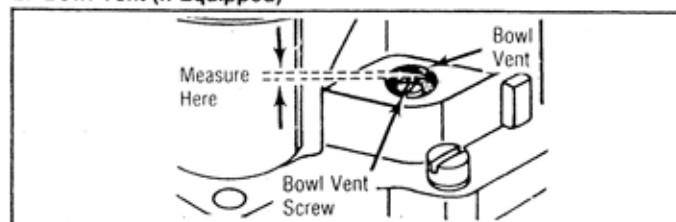

Fig. 5 Bowl Vent Adjustment (Early Type - If Equipped)
2. Hold throttle valves closed. Measure bowl vent specified clearance between bowl vent valve and inside of air horn. See Fig. 5.